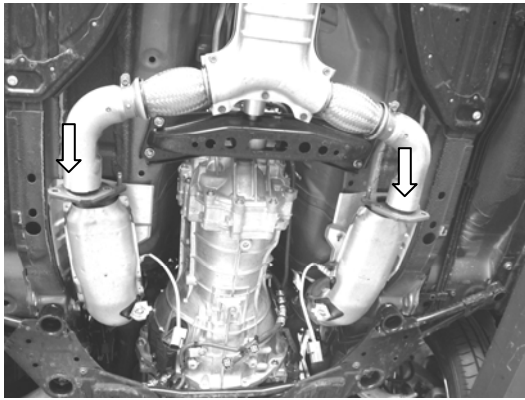

Figure 3
6. Unbolt each flange shown in figure 3 connecting the catalytic converters to the Y-pipe assembly.